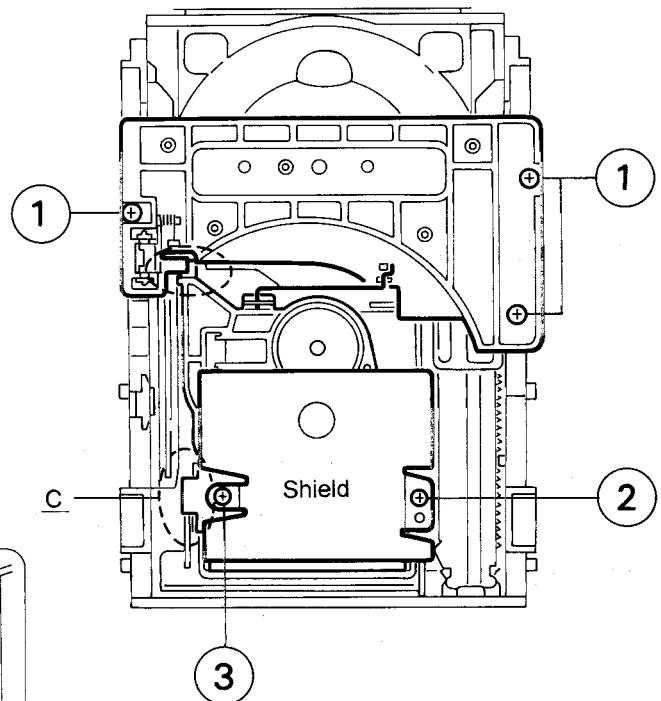
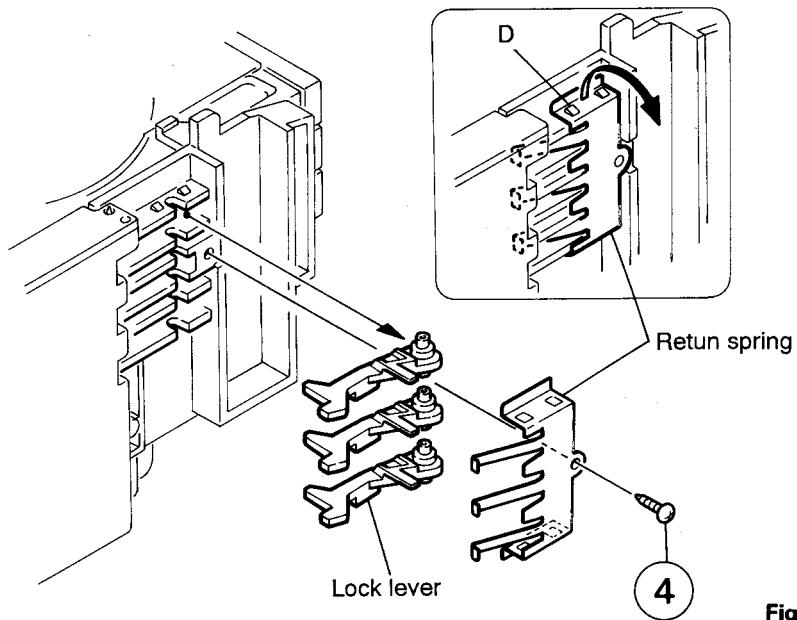

Fig. 5-19
Fig. 5-20
6. Remove the two screws (2 and 3) retaining both of the shield and clamper assembly (See Fig. 5-19).
7. Remove the shield from the section (C) retaining the clamper assembly (See Fig. 5-19).
8. From the left side face of the chassis assembly, remove the one screw (4) retaining both of the return spring and lock lever.
9. By removing the pawl at the section (D) fixing the return spring, dismount the return spring (See Fig. 5-20).